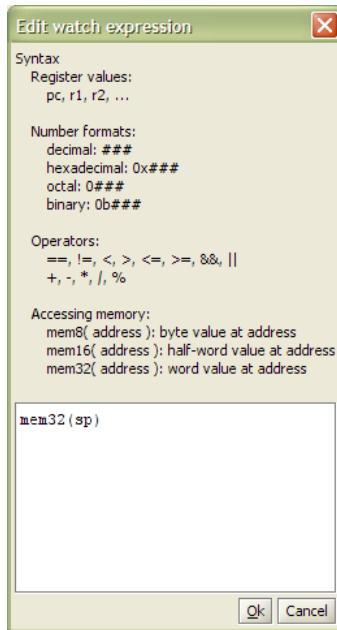

Figure 45. The **Edit Watch Expression** window.
3. The **Edit Watch Expression** window will appear, like in Figure 45. Enter the desired watch expression, such as `mem32(sp)`, which will display the full-word value at the current stack pointer address.